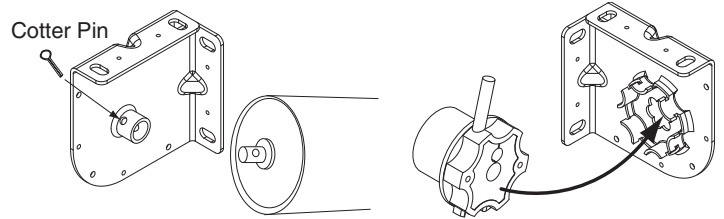

Figure 3
- ③ Rotate the roller assembly idler pin so that the $\frac{1}{4}$ " hole in the shaft is aligned with the $\frac{1}{4}$ " hole in the idler end bracket (see Fig. 3).
- ④ Place idler pin into the idler end bracket.
- ⑤ Insert the cotter pin through the idler end bracket and shaft.
- ⑥ Insert the motor end of the roller assembly into the motor end bracket (see Fig. 3).